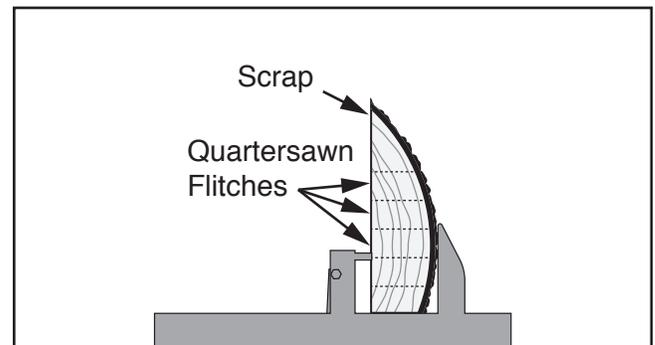

Figure 95. Quartersawn flitches to be cut from slabs.
21. Cut slab where quartersawn quality wood begins, then continue to cut flitches from top to bottom until slab is fully used (see **Figure 95**).